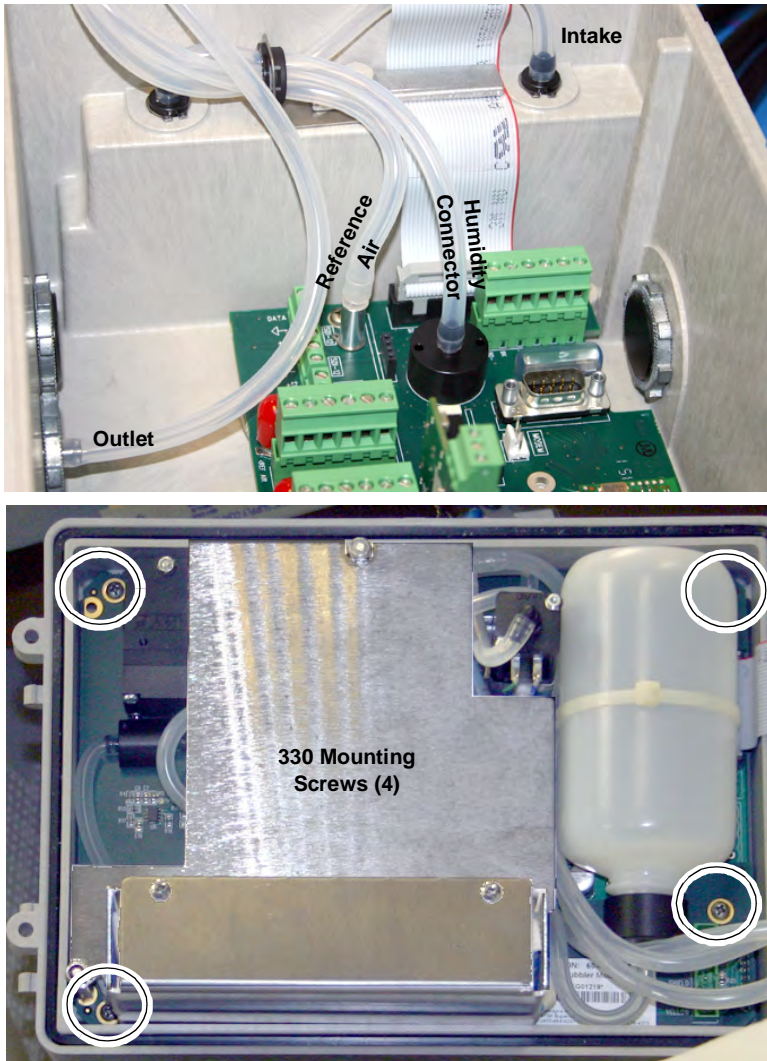

Figure 5-9 Disconnect and remove bubbler module
3. To ensure that the bubble line tubing is reconnected correctly, label the tubing ends as shown below in Figure 5-9, then remove the four mounting screws holding the 330 bubbler in place and set it aside.